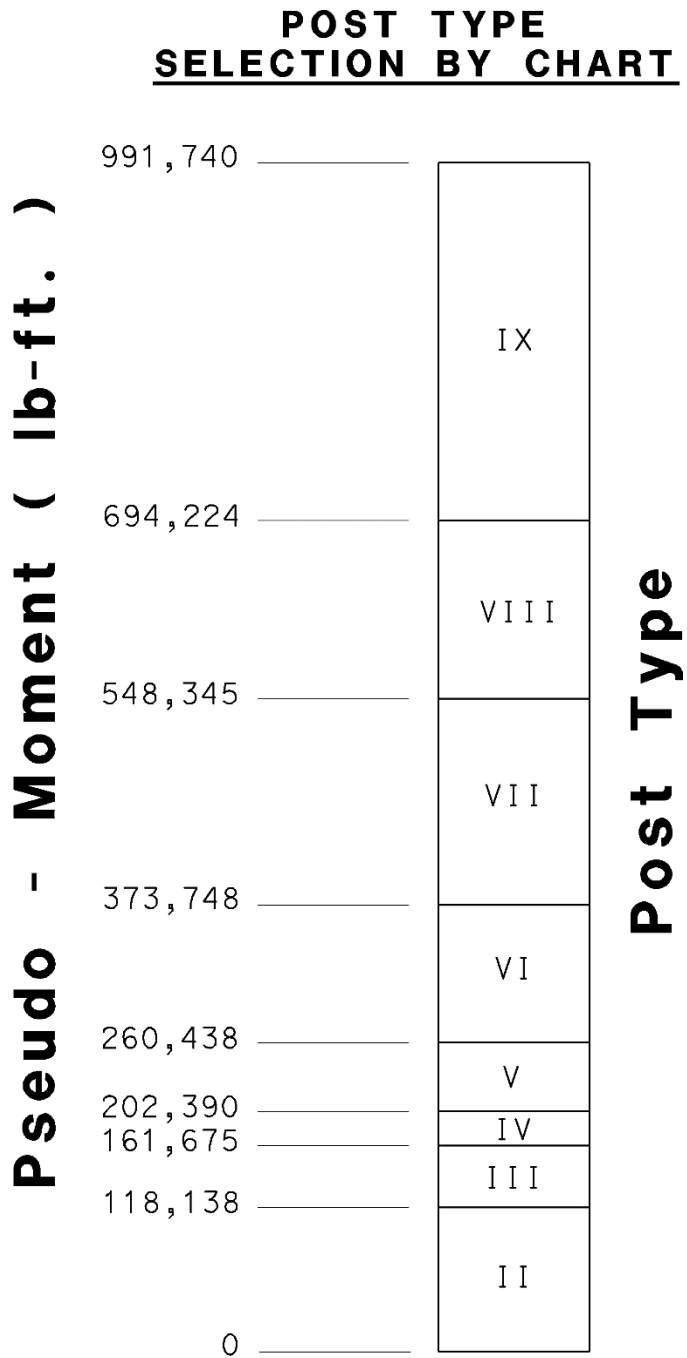

Figure 9. Post Type Selection for Single Post Truss Using Pseudo-Moment
- Use *PM* and Figure 9 to determine minimum post size